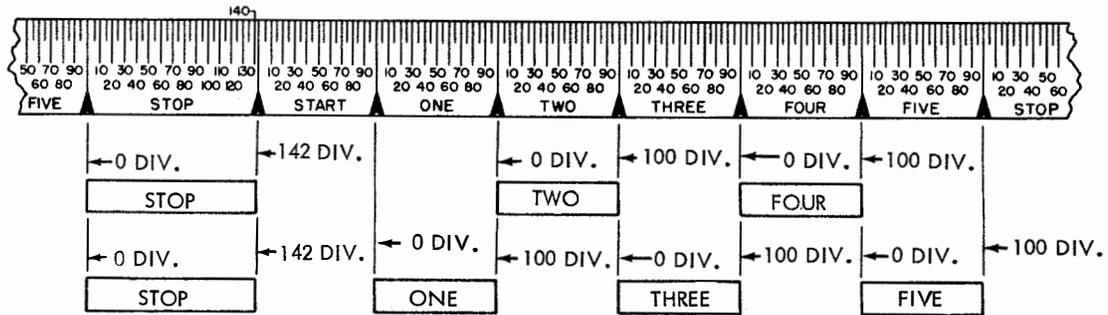

Figure 2 - Pulse Length Requirements for Distributor Contacts No. 1 Through No. 5
(2) Replace Blank combination by an R perforated tape and orient the test-set scale to align the 142 mark of its stop segment with the end of the stop pulse image. Length of the trace for the No. 2 and No. 4 contacts shall be equal within ±4 divisions on each end of the No. 2 and No. 4 segments of the test-set scale. (See Figure 2.)
(3) Replace the R perforated tape with Y perforated tape and orient the test-set scale to align the 142 mark of its stop segment with the end of the stop pulse segment. Length of the trace shall be equal within ±4 divisions on each end of No. 1, No. 3, and No. 5 segments of the test-set scale. (See Figure 2.)